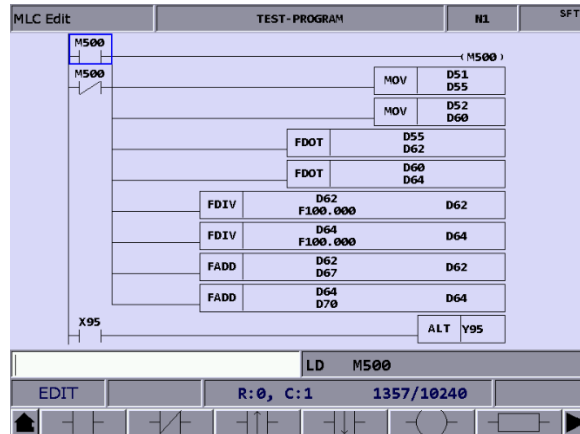

Figure 9.3.5.1
Basic MLC commands, including LD, LDI, LDP, LDF, OUT, APP, —, and |, are created with the function of MLC editing, as shown in Figure 9.3.5.1.
- (1) Press **DGN** to enter the DGN screen.
- (2) Press **MLC** to display the function bar in the second layer.
- (3) Press **EDITOR** to enter the MLC Edit screen as shown in Figure 9.3.5.1.
- (4) Press **↑**, **↓**, **←**, and **→** to move the cursor to the field to be edited.
- (5) Enter the device name and press **LD** to complete creating the command.